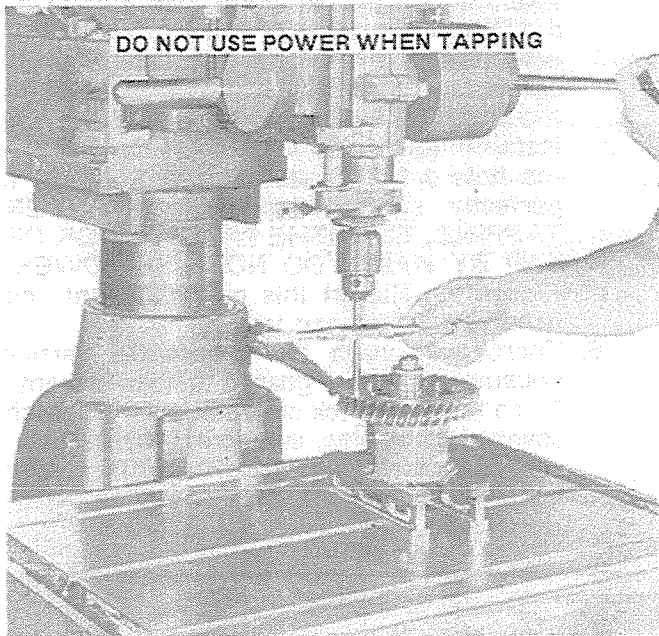

Figure 12
5. The holes that are to be drilled into the differential carrier and worm gear should be 5/16" in diameter and 1-3/4" deep. After each hole is drilled and before differential carrier is moved to the next hole, remove the 5/16" bit from the drill press chuck and install in its place a 3/8-16 U.N.C. tap. Tap the hole 1-1/2" deep. This will insure a perfectly straight tapped hole. **WHEN TAPPING, TURN THE PRESS CHUCK OR TAP BY HAND; DO NOT USE POWER.** Figure 12. Repeat this procedure until all holes are drilled and tapped.